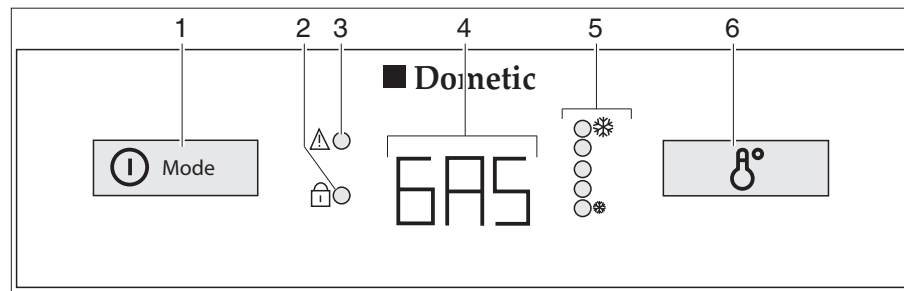

Fig. 353 Operating controls for the refrigerator (Dometic 8 series with AES)
In the case of a fault, the LED display fault will flash "▲!" (Fig. 353,3).
If the 240 V power supply is **not** connected and the vehicle's engine is **not running** the AES selects the gas supply. When selecting gas operation the ignition fuse is opened automatically so gas can get into the burner. At the same time the electronic ignition is activated. If the gas flame is extinguished, e.g. by blast of wind, the ignition is activated immediately and re-ignites the gas. In the case of a fault in gas operation the text "GAS" flashes in the operating indicator (Fig. 353,4).
When turned on the first time the refrigerator automatically selects the middle thermostat position. This position can be adjusted manually by using the switch for temperature setting (Fig. 353,6). The indicator LEDs (Fig. 353,5) show the selected thermostat position. The refrigerating temperature for the three types of energy is set with the switch. It takes a few hours till the refrigerator reaches its normal operating temperature. When changing over the operating mode the thermostat setting will be maintained. The refrigerating temperature is retained regardless of the type of power being used.
- Press the on/off switch/energy selector switch (Fig. 353,1) down for 2 seconds in order to switch on the appliance. The operating mode selected most recently is shown in the operating indicator (Fig. 353,4).
- Select the energy type with the on/off switch/energy selector switch (Fig. 353,1).
- Set the refrigerating temperature on the switch for temperature setting (Fig. 353,6). The indicator LEDs (Fig. 353,5) show the selected thermostat position.
- Press down the on/off switch/energy selector switch (Fig. 353,1) for 2 seconds. All displays close.